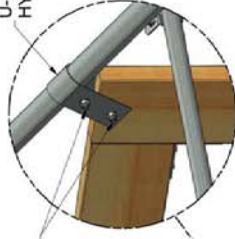

FIGURE 3
3. FOR CUSTOM DOOR OPENINGS, DETERMINE DOOR WIDTH AND HEIGHT. ATTACH AND PLUMB DOOR JAMBS USING FITTING AS SHOWN. [FIGURE 3] FOR POLY-TEX ROLL-UP END DOORS, FRAME OPENING TO 8'-0" x 8'-0"